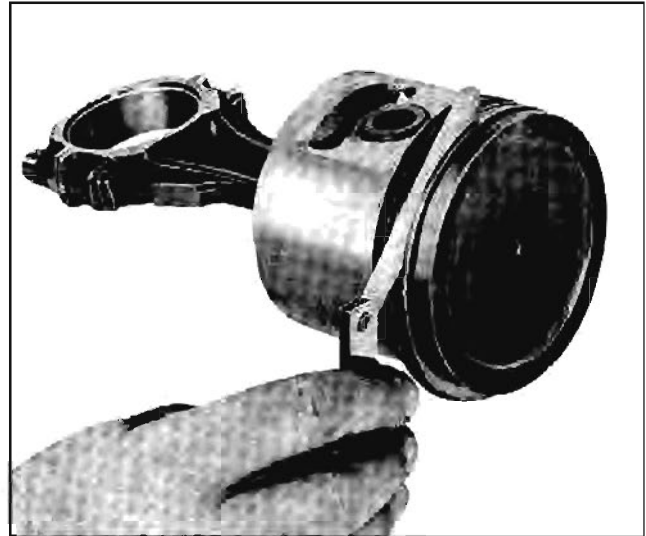

Fig. 6-112 Measuring Side Clearance of Ring in Groove
7. Measure side clearance of rings in ring groove (Fig. 6-112), as each ring is installed. Clearance with new pistons and rings should be as follows: